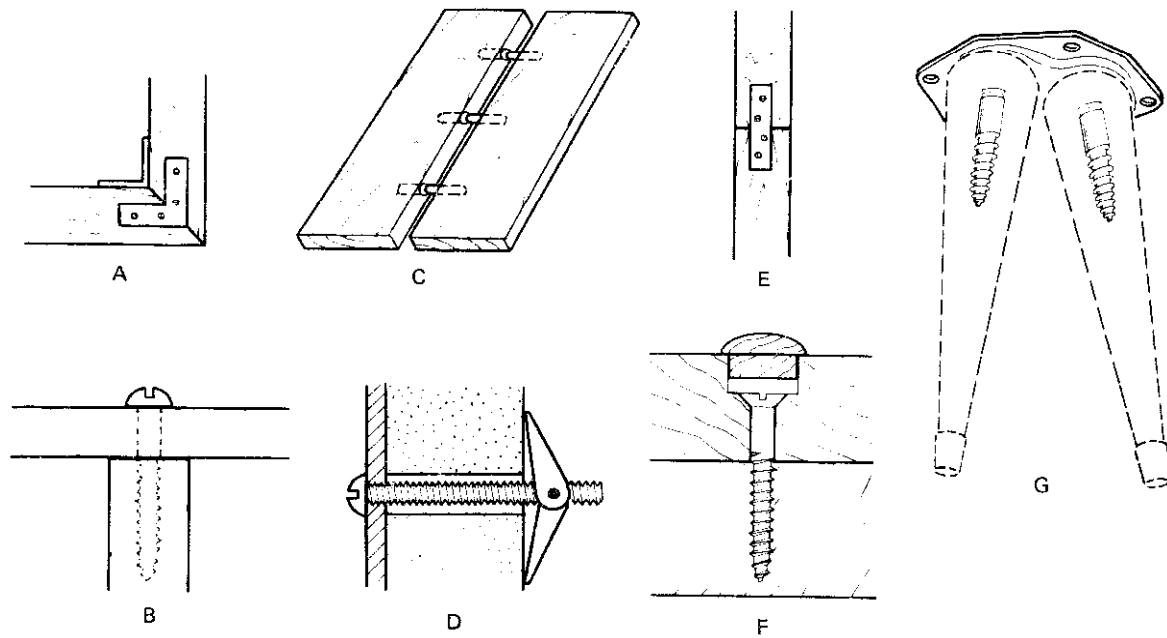

Fig. 12-46
2. Identify the fastening devices in the assembly shown in figure 12-46.